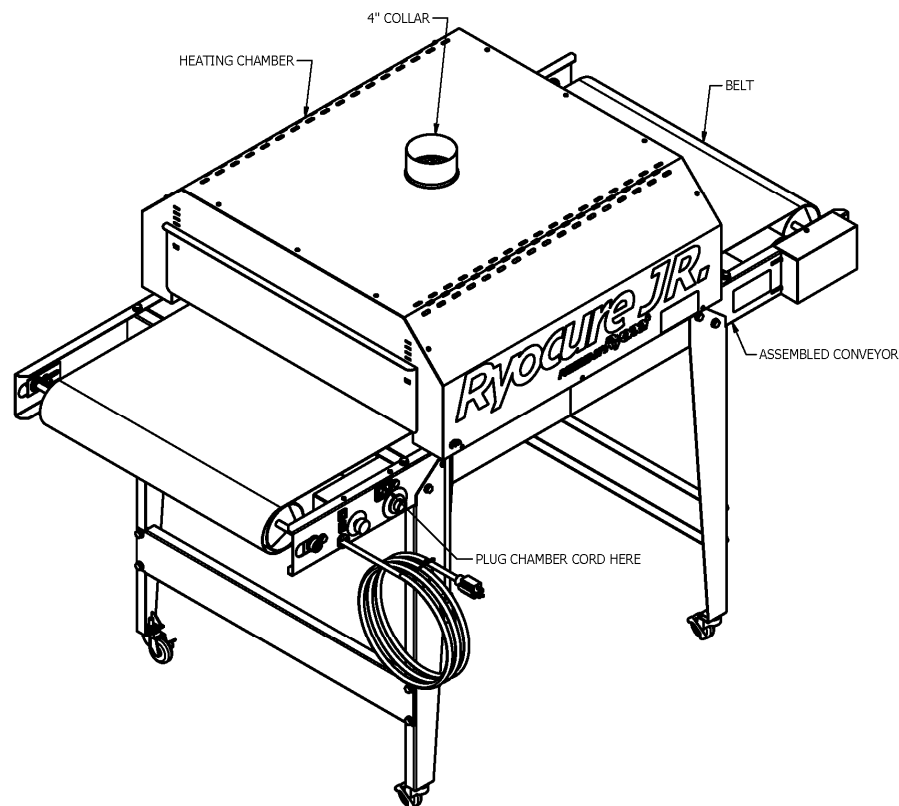

Figure 3 - Heating Chamber Assembly
1. **Using two people** set the chamber onto the conveyor bed (see Fig. 3). The Heating Chamber cord must be on the same side of the Conveyor Bed as the Heater Controls